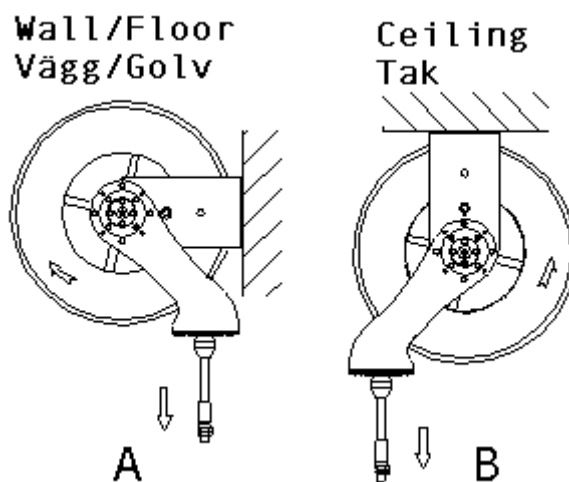

Fig. 2
For smooth operation and longer life, position the reel and its arms as in figure 2. To move the hose guide arms, remove the screws (18), place the arms in the correct position and thread the screws.